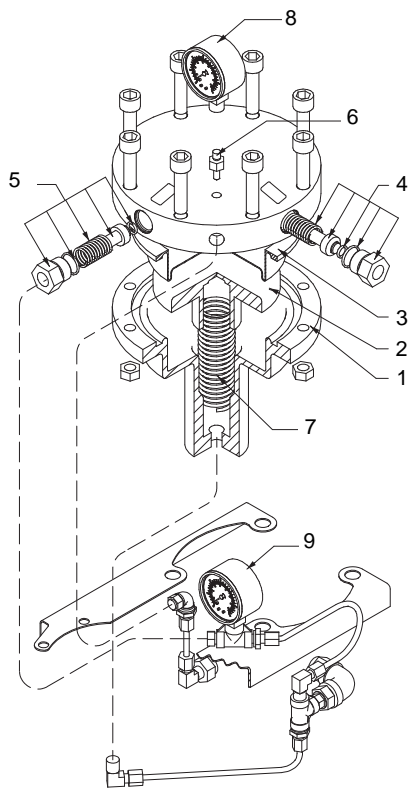

Fig. 6 Components of pressure intensifier
2	<p>Filling the seal chamber</p> <ul style="list-style-type: none"> Fill the intensifier and the seal chamber with barrier fluid, and connect the barrier fluid supply pipe to the unused inlet of the intensifier (pos. 4, fig. 6). The pressure in the seal chamber must always be 1.5 to 4 bar higher than the pump pressure when the pump is not operating. <p>$p_f = p_s^* + 1.5 \text{ to } 4 \text{ bar}$.</p> <p>$p_f$ = To be read on the pressure gauge on the intensifier (pos. 8, fig. 6). p_s = To be read on the pressure gauge in the connection pipe (pos. 9, fig. 6) between intensifier and pump.</p> <p>* p_s = inlet pressure when the pump is not operating; must always be 0.1 to 5 bar higher than the atmospheric pressure.</p>
3	<p>Venting</p> <p>During filling, the seal chamber and the intensifier must be vented:</p> <ul style="list-style-type: none"> Use the vent screw at the top of the seal chamber (pos. C/D, fig. 1, 2, 3 or 4) and the vent screw at the top of the intensifier (pos. 6, fig. 6).